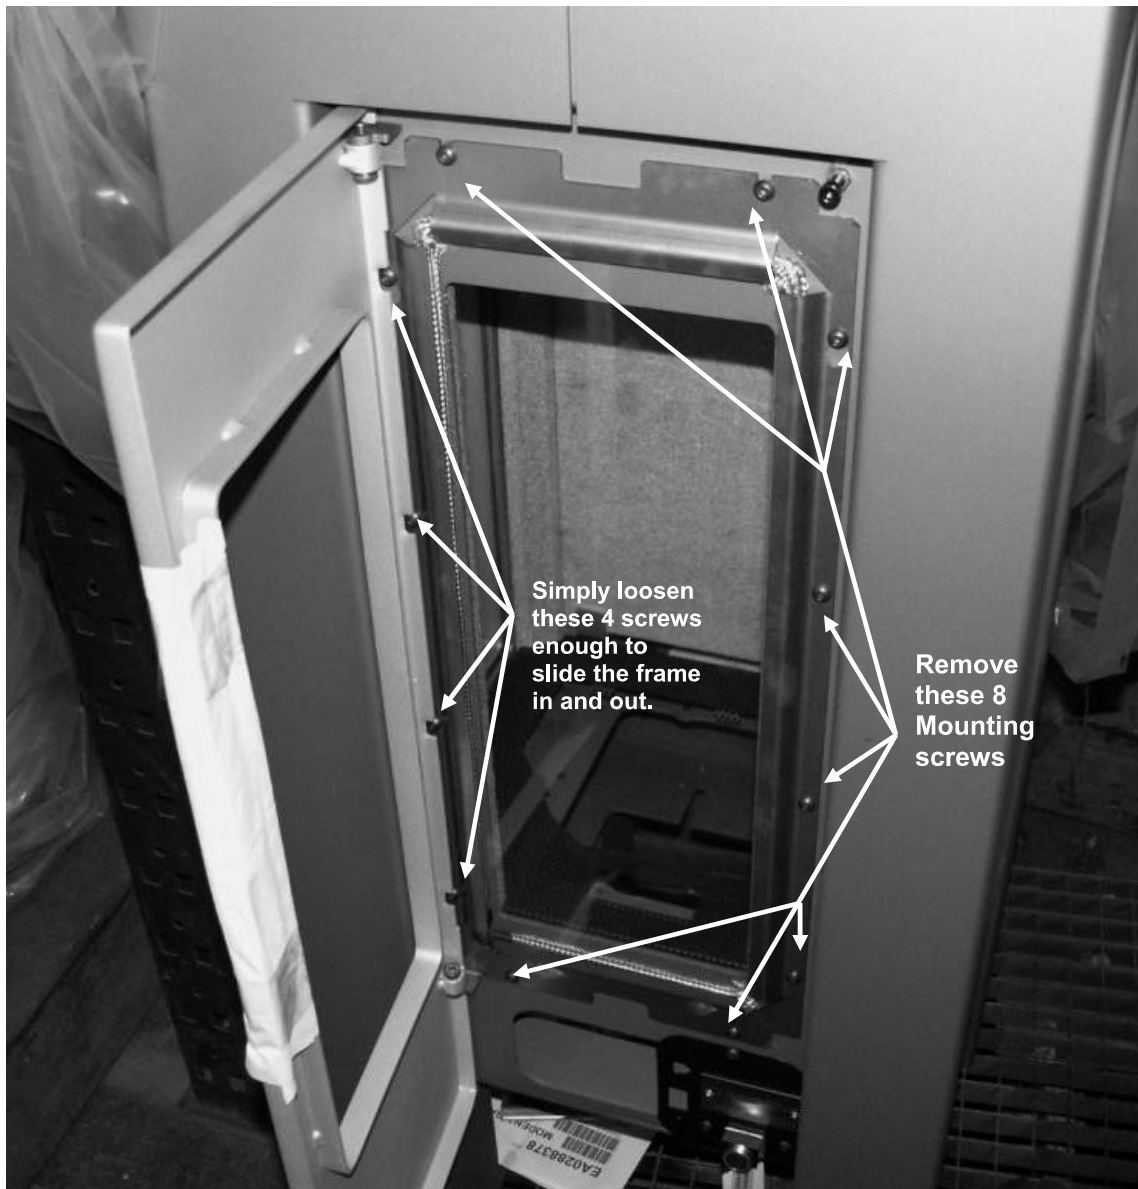

Figure 16: Glass frame mounting screws
3. Remove the 8 remaining mounting screws (see figure 16) that attach the frame and glass to the firebox. (Be careful as you remove the last screws, as the frame will be loose and will want to fall)